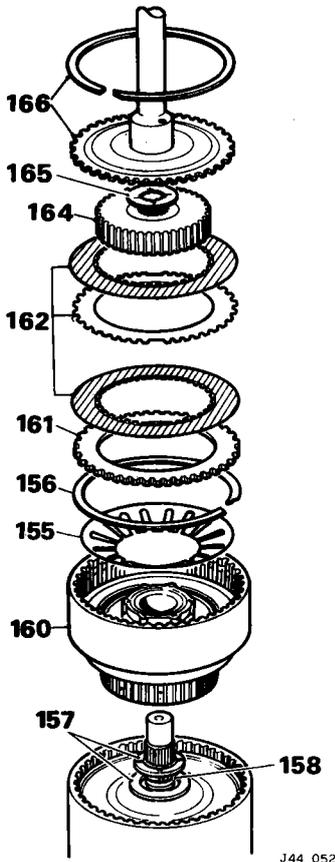

Fig. 51
- 155. Fit the release diaphragm (Fig. 51).
- 156. Fit the snap-ring (Fig. 51); ensure that the ring is correctly seated in the groove.
- 157. Fit the steel backing washer and new bronze thrust washer on the forward sun gear shaft (Fig. 51); ensure that the backing washer is seated correctly.
- 158. Ensure that the gaps in the sealing rings on the input end of the forward sun gear shaft are staggered (Fig. 51).
- 160. Carefully lower the front clutch hub and piston assembly over the shaft and into rear clutch (Fig. 51).
161. Fit the ring gear (Fig. 51).
162. Position the inner and outer clutch plates in the clutch drum (Fig. 51).
164. Fit the clutch hub; ensure that the hub fully engages all clutch plates (Fig. 51).
165. Position the new bronze thrust washer in the recess in the clutch hub (Fig. 51).
166. Fit the turbine shaft and the snap-ring; ensure that the snap-ring is correctly seated in groove (Fig. 51).